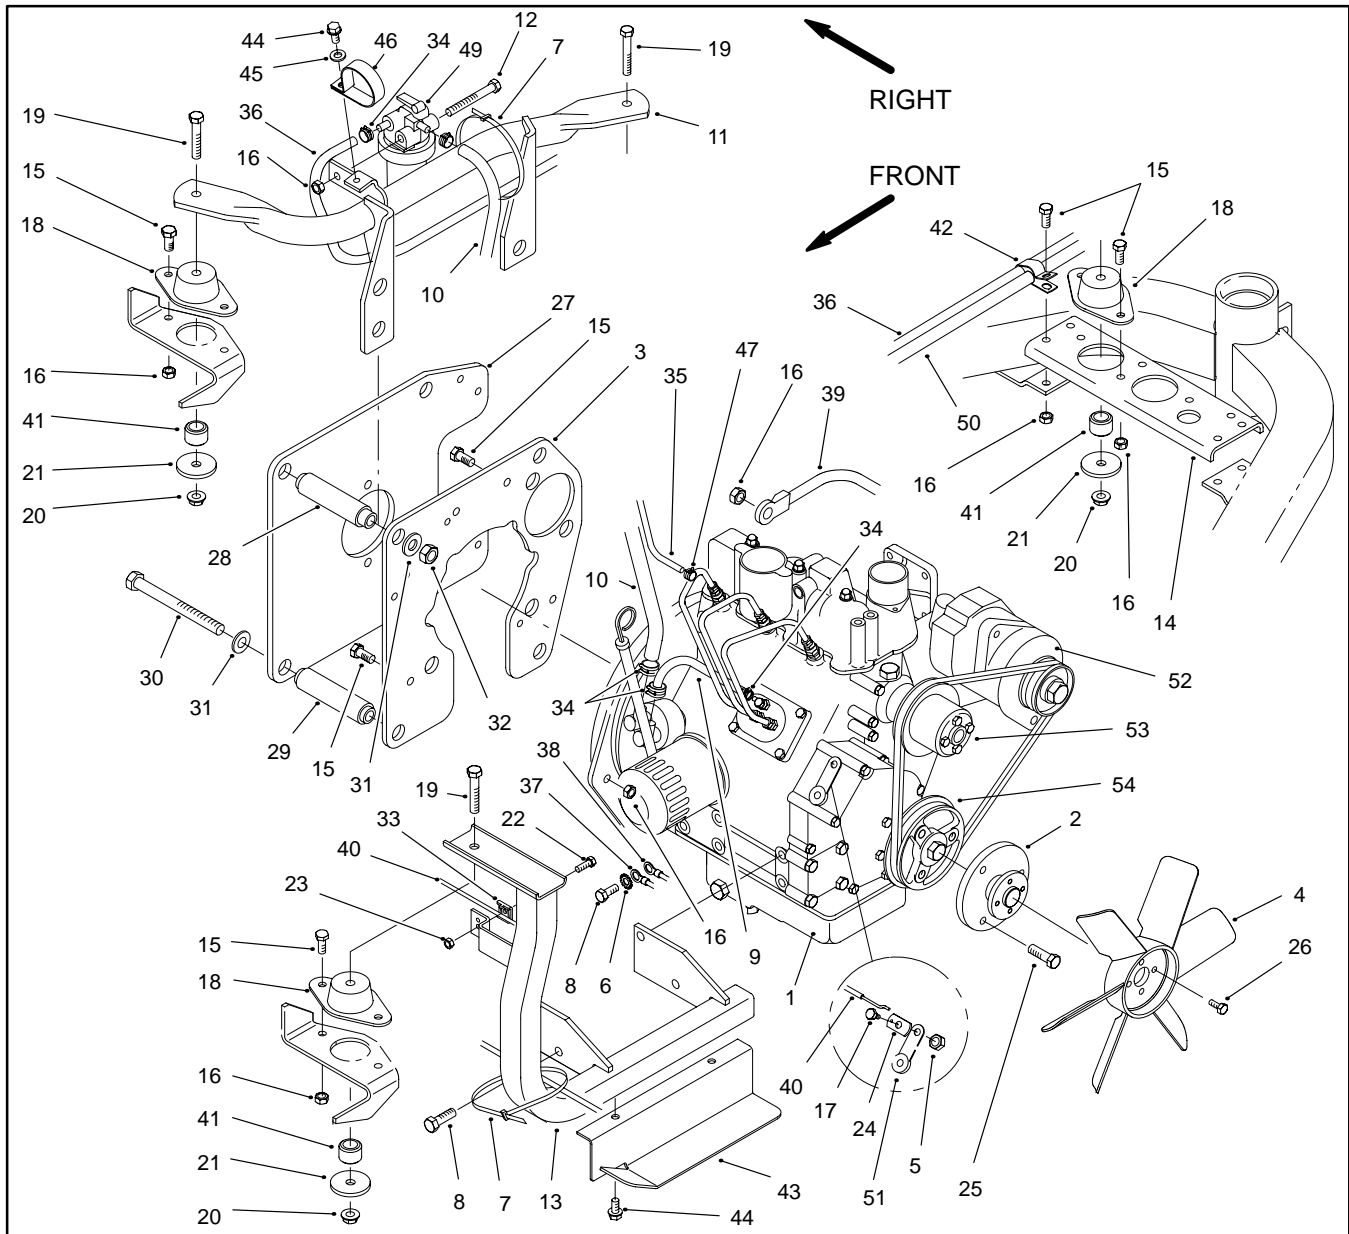

Figure 28
B. Disconnect fuel hose (36) and expansion tank hose (50) from the support bracket (14). Disconnect fuel hose (35) from the number three fuel injector (Fig. 28).